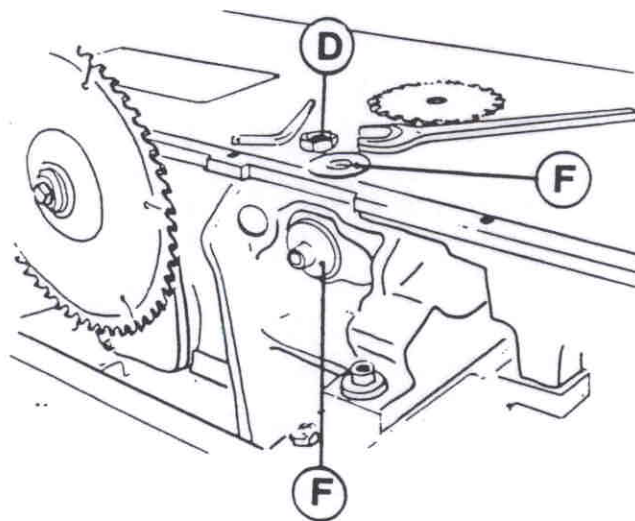

Fig.23
Take off nut (D fig.23) and one flange (F): check that flange (F) as well as scoring blade are clean.